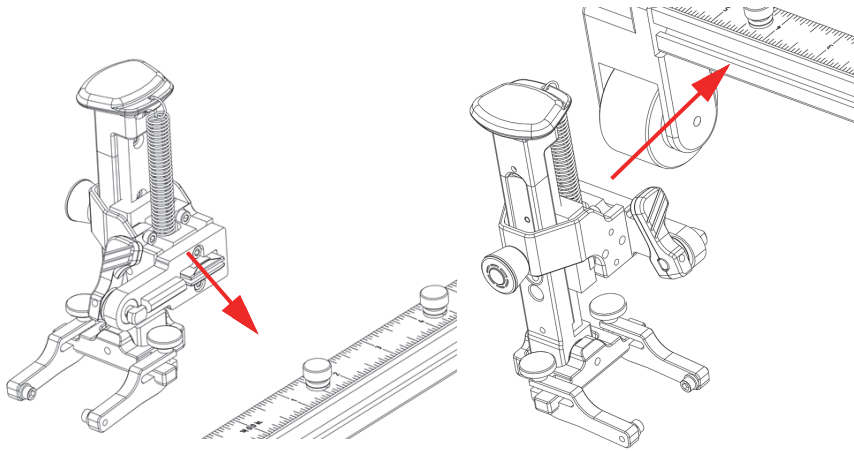

Figure 2-11 Probe holder alignment with the rail slot
2. Align the probe holder with the rail slot, ensuring that both are parallel to each other (Figure 2-11 on page 44).